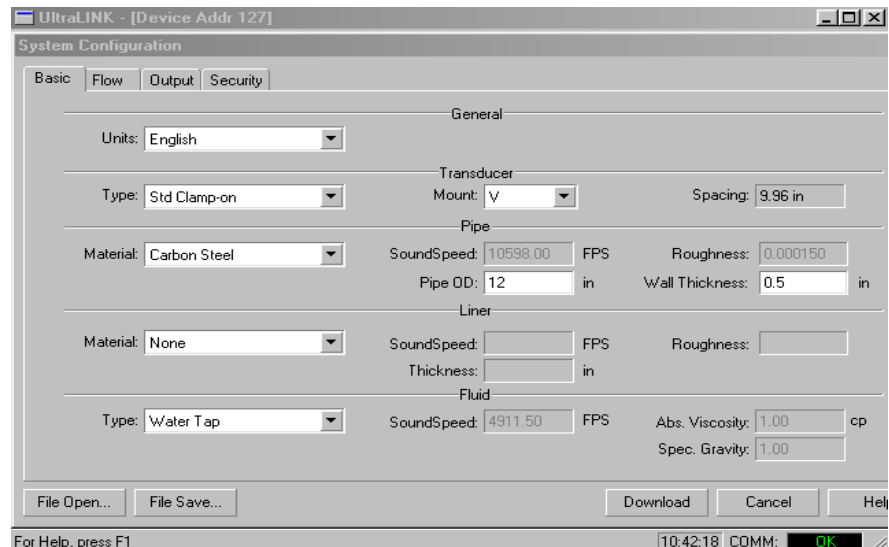

Figure 4.2
Click on the button labeled **Configuration** for updating flow range, liquid, pipe and I/O operating information. The first screen that appears after clicking the **Configuration** button is the **BASIC** tab. See **Figure 4.2**.
1. **BASIC TAB** - see **Figure 4.2**